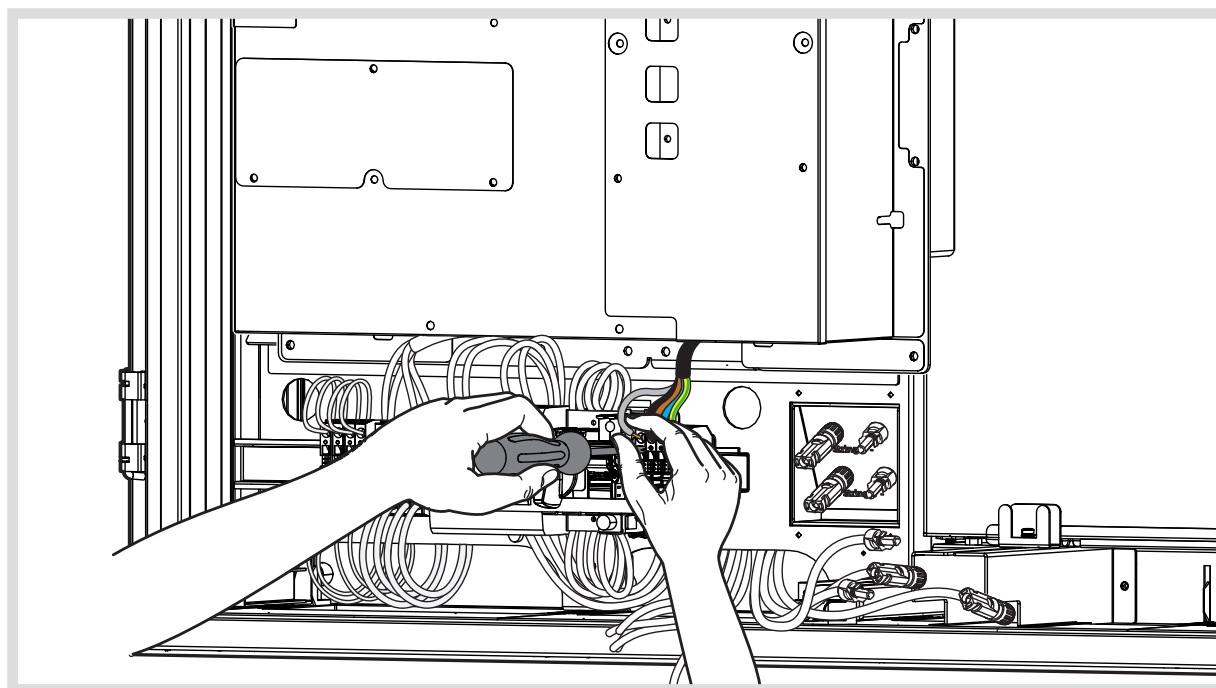

Figure 22: Inverter mains connection
- Connect the pre-assembled mains cable of the inverter to the modular plug-in terminals of the network supply cable in the main connection area with a slot screwdriver (Figure 22).